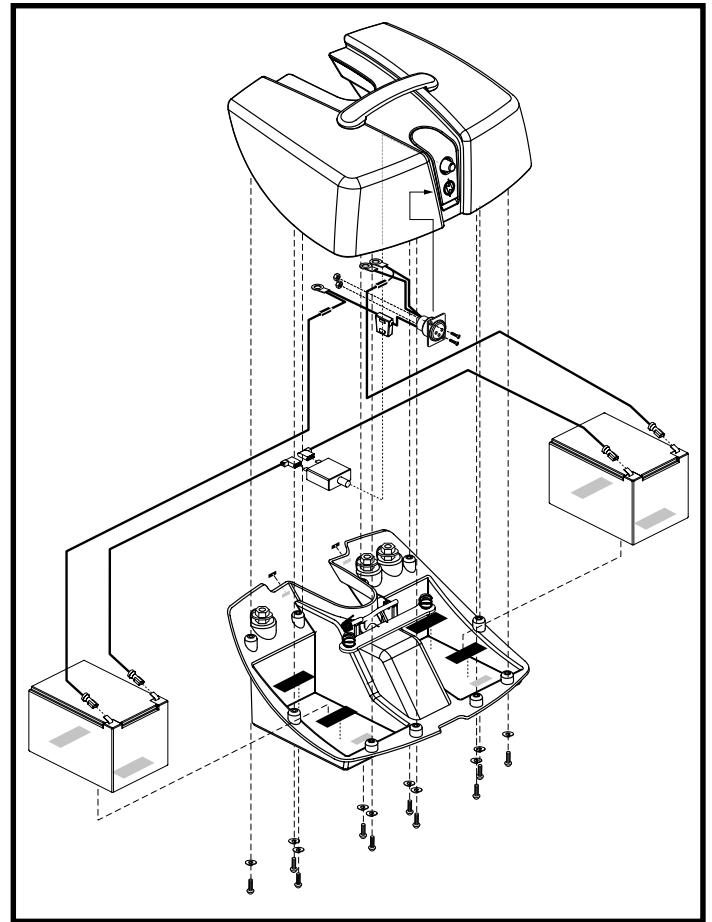

Figure 27. Z-Chair Battery Box
3. Remove all screws that hold the battery box halves together. See figure 27.
8. Reconnect the two (2) battery leads to the battery terminals. Make sure the red lead is connected to the (+) positive terminal and the black lead is connected to the (-) negative terminal.